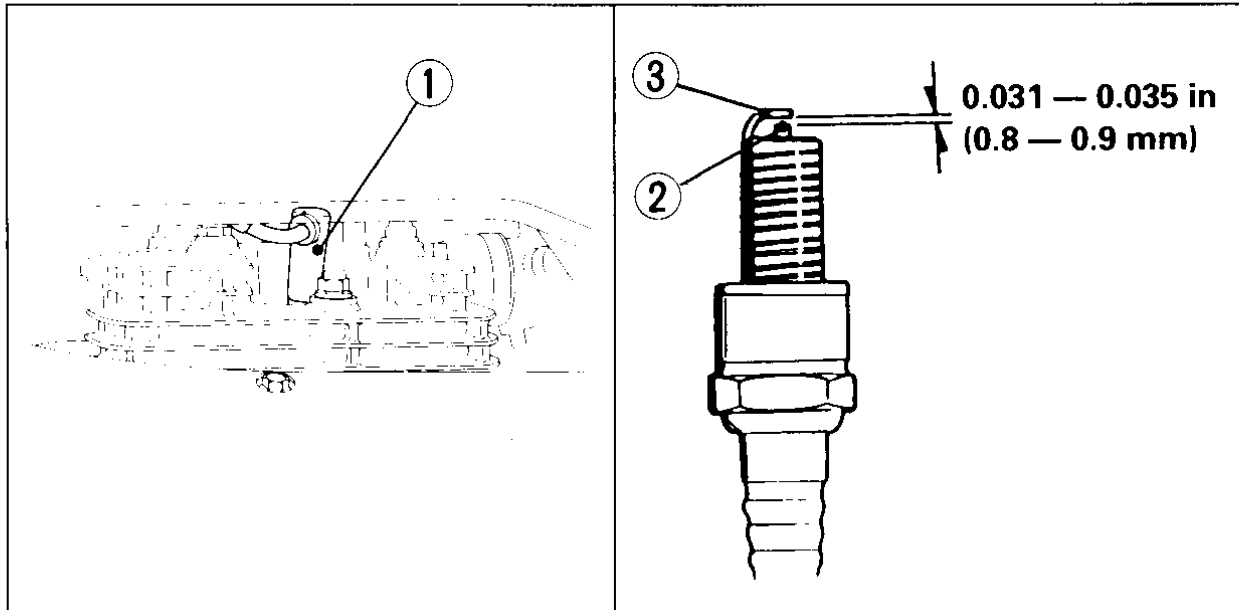

Fig. 4-16
1. Disconnect the spark plug cap (Fig. 4-16).
4. Visually inspect the spark plug electrodes for wear. The center electrode (2) should have a flat tip and sharp edges, and the side electrode (3) should not be eroded. If the electrodes and insulator tip appear unusually fouled or burned, we suggest that you contact your authorized Honda dealer.